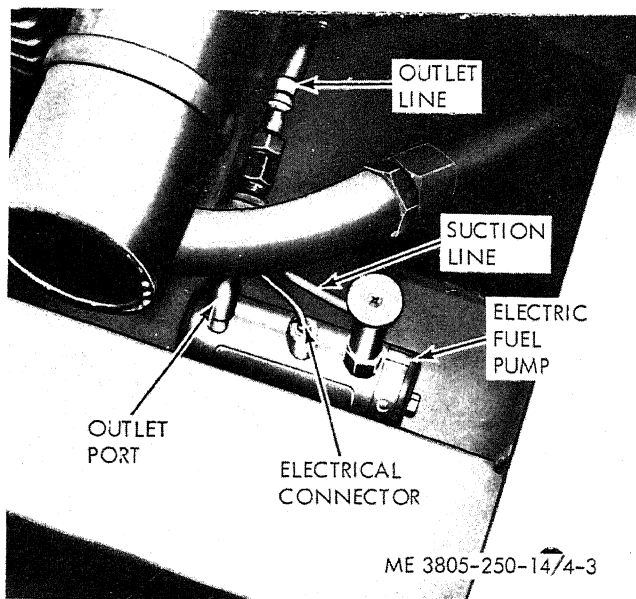

Figure 4-3. Electric fuel pump, removal and installation.
(1) Disconnect the electrical connector (fig. 4-3).
(2) Remove elbow nut, sleeve, and elbow connecting the fuel tank suction line to the fuel pump inlet port.